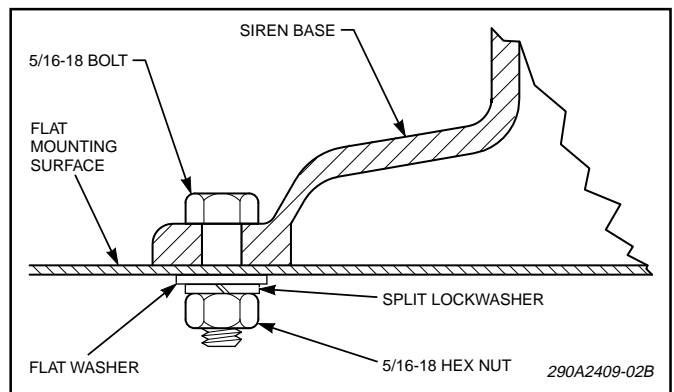

Figure 1.
g. Position the siren base over the mounting holes. Insert three 5/16-18 bolts through the holes in siren pedestal mounting bosses and mounting surface. Secure with flat washer, lockwasher and nut as shown in figure 1. Torque mounting bolts to 110-130 in./lbs.